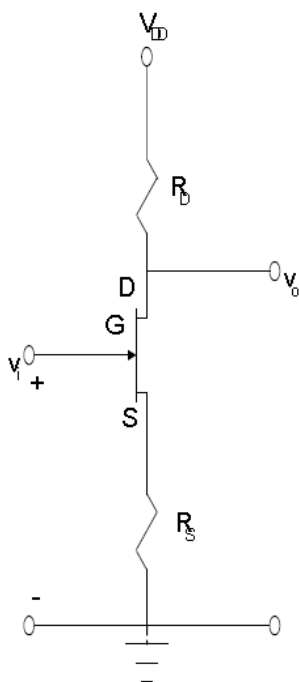
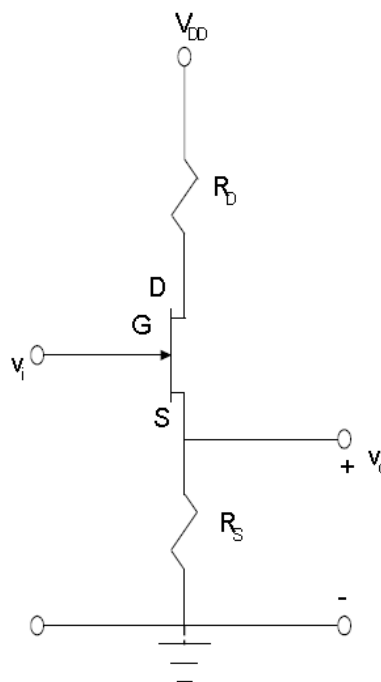

Figure 11.2: Common-Drain Amplifier
Figure 11.3: Common-Source Amplifier
As with BJTs, there are different configurations for low frequency FET amplifiers. The different FET configurations are the common-source (CS) and common-drain (CD) amplifiers, shown in Figure 11.2 and Figure 11.3, respectively. The CS FET amplifier is analogous to the common collector (CC) BJT amplifier.